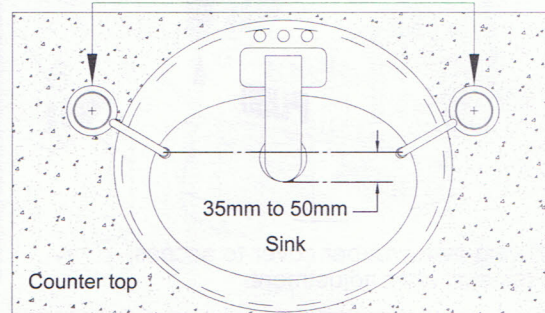

Fig. 2A
- Choose a suitable location (Fig 2A), cut and paste installation template (Fig. 2B) on the drilling location. (Ensure clearance above and below the counter as shown in Fig. 3).